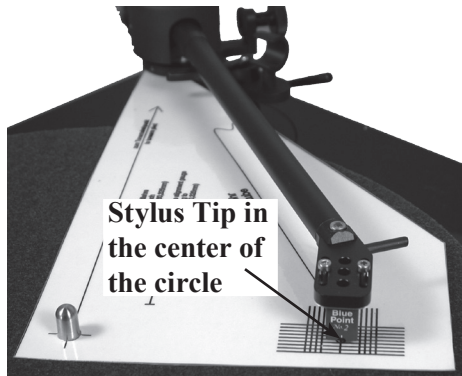

Figure 28
- It is important the Front and Sides of the Cartridge Body line up with these parallel lines when looking down over the top of the Tone Arm. Refer to figures 28 and 29. If it is not parallel, loosen the mounting hardware securing the Phono Cartridge